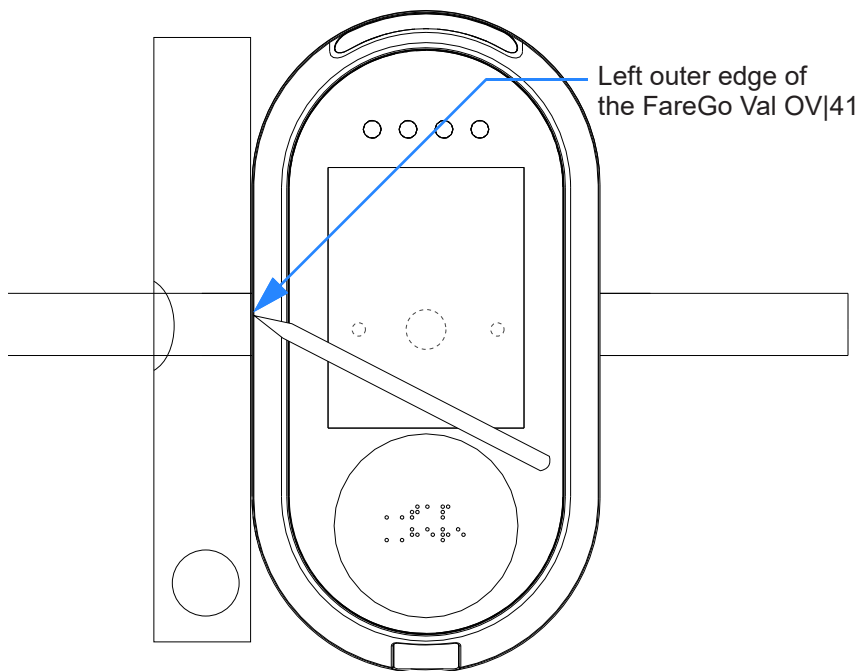

Figure 3-61 Marking Left Outer Edge FareGo Val OV|41 Position
Step 1 Mark the left outer edge of the FareGo Val OV|41 on the pole, see **Figure 3-61**.